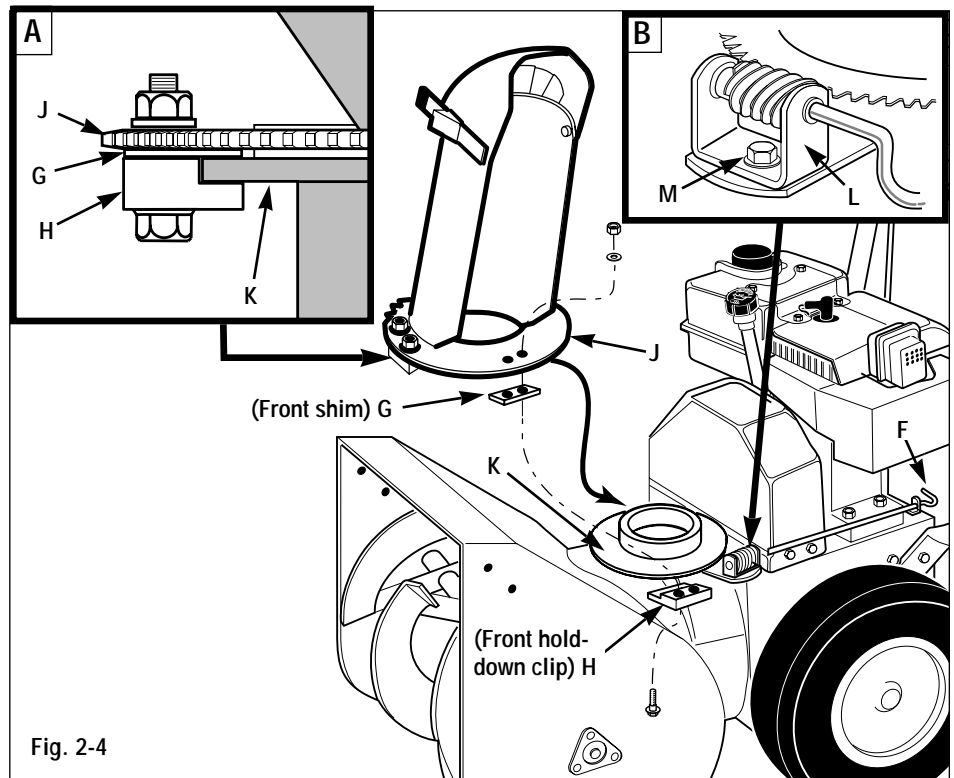
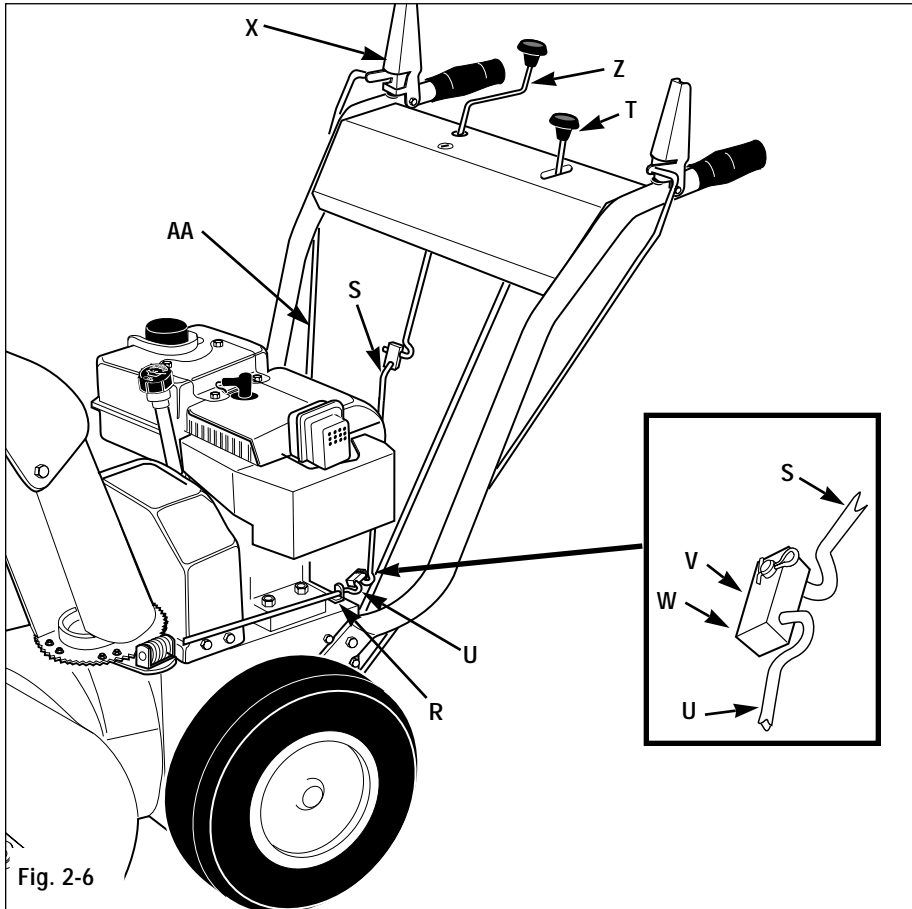
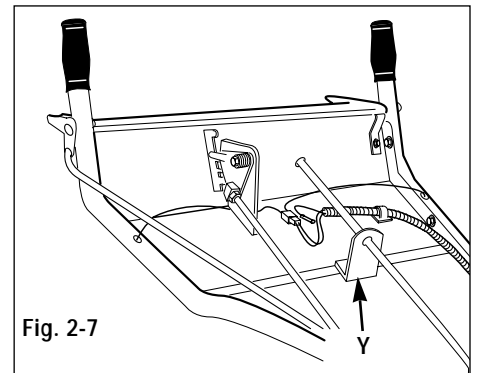

Fig. 2-4
Fig. 2-6
Fig. 2-7
2. Loosen (do not remove) the left and right side sets of plastic shims (G, Fig. 2-4, inset A) and plastic hold-down clips (H, Fig. 2-4, inset A) on the toothed flange (J) of the discharge chute assembly. Remove and save the remaining (front) hold-down clip, shim and mounting hardware.
3. From either side of the unit, slide the discharge chute onto the chute mounting flange (K), making sure that the plastic shims (G) are above the flange and the plastic hold-down clips (H) are below the flange. Tighten the shim mounting hardware securely (if necessary, rotate the discharge chute to the right in order to tighten the left side shim and hold-down clip).
4. Hook the front hold-down clip (H) under the mounting flange (K) and place the front plastic shim (G) on top of the hold-down clip, between the top of the flange and the toothed chute flange. Using two 5/16" wrenches, secure with the screws, washers and locknuts.
5. Remove the plastic cable tie that secures the worm gear assembly (L, Fig. 2-4 inset B) to the mounting bracket.
6. Remove the washer and locknut from the screw (M, Fig. 2-4 inset B) in the worm gear assembly (L). Position the worm gear assembly on the mounting bracket as follows:
- c. Reinstall the washer and locknut on the screw (M) and tighten securely.
- d. Turn chute control rod (F, Fig. 2-4) by hand to be sure the worm gear and discharge chute rotate freely, but with enough resistance to prevent free rotation of the discharge chute during snow removal operation. Readjust position of worm gear assembly as necessary.
1. Remove the plastic cable tie that secures the auger drive control rod (AA, Fig. 2-6) to the right handlebar. Next, remove the plastic cable tie that secures the chute crank rod (short rod with plastic swivel blocks) to the auger drive control rod.
2. Pull the chute crank rod (Z, Fig. 2-6) up through the top of the control panel.
3. Attach the chute control rod sections (S and U, Fig. 2-6) as follows:
- a. Insert the angled end of the chute control rod, (U, Fig. 2-6 inset) into the hole in the swivel block (V) that is attached to the end of the chute crank rod (S).
- b. Insert a cotter pin (W) through the hole in the chute control rod (U) and spread the ends of the cotter pin.
4. Position the chute control support (Y, Fig. 2-7) against the underside of the handlebar console as shown. Secure the support with the two #10-24 x 3/8" Phillips pan head screws and #10-24 locknuts supplied.
5. Rotate the chute control crank (Z, Fig. 2-6). The deflector chute should turn freely. Adjust the worm gear assembly bracket (L, Fig. 2-4) as necessary to prevent binding.
3. Hold the jam nut (AT) in place with a 7/16" wrench and use another 7/16" wrench to thread the adjusting thimble (AS) downward a total of 12 turns.
4. Raise auger drive control handle (X, Fig. 2-6) all the way up. Then hook the spring (AC, Fig. 2-8) at the lower end of the auger drive control rod (AA) into the hole in the auger drive control arm (AD).
1. Place the gear shift select lever (T, Fig. 2-6) in the No. 5 position.